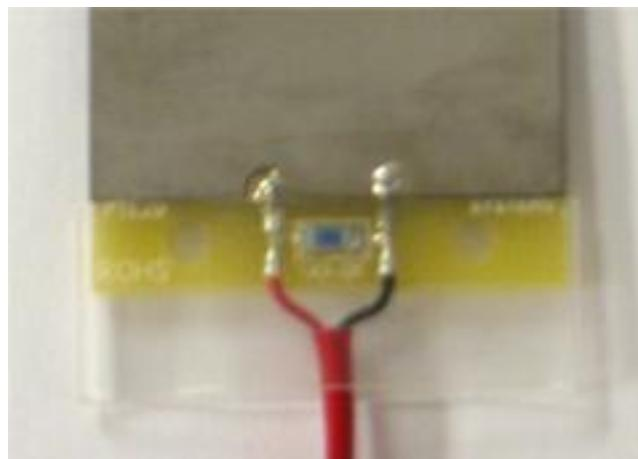

Fig. 4.3L The heat-shrink tubing should come right up to the piezoceramic piece.
4.3L Cut a $\frac{1}{2}$ " length of $\frac{3}{4}$ " clear heat-shrink tubing. Affix this to the base of the bending actuator so that the top of the clear heat-shrink tubing meets the bottom of the piezoceramic rectangle of the bending actuator as shown in figure 4.3L below.